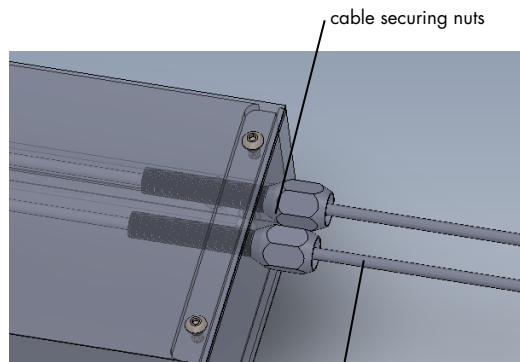

Figure 2
- ii. Attach brake cable ends to adjustable cable clamp, securing tightly (Figure 2).